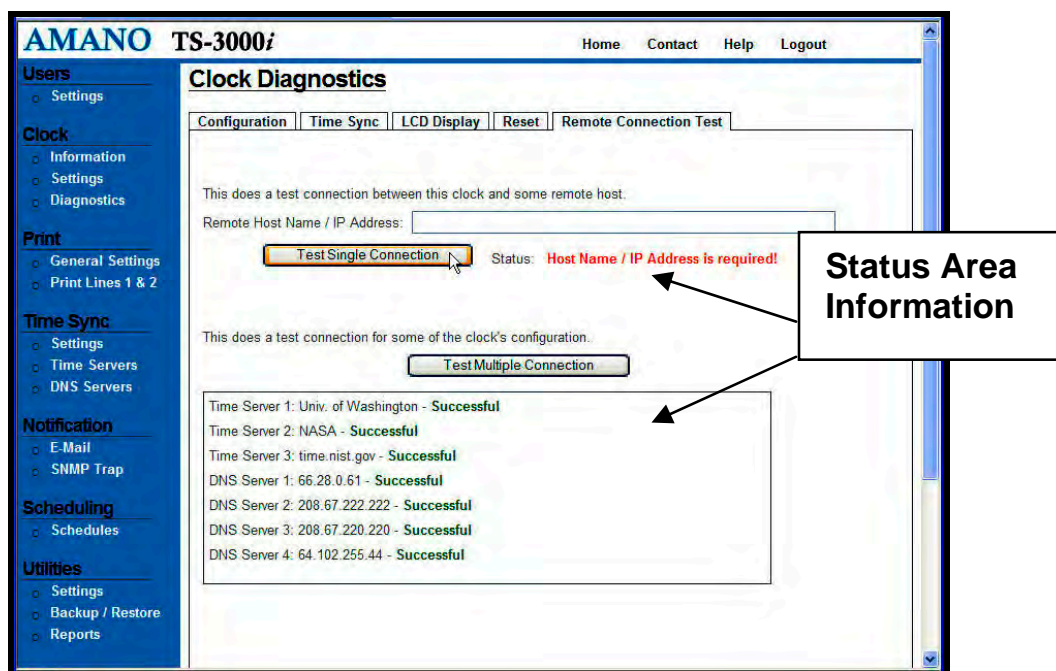

Figure 7-6: Clock Reset
- Step 1.** Click on the **Diagnostics** link under **Clock**, and the **Clock Diagnostics** screen will appear. Then click on the **Remote Connection Test** tab and the Remote Connection Test screen will appear (see *Figure 7-6*).